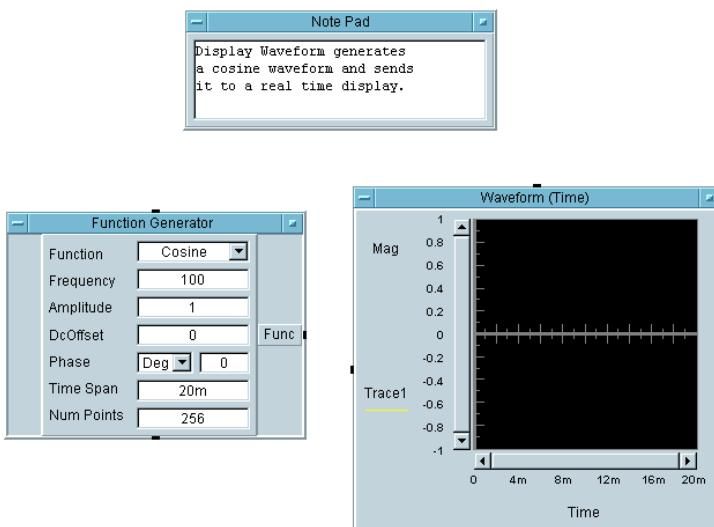

Figure 1-25. Creating a Program
3. Add the Waveform (Time) object. Select `Display` ⇒ `Waveform (Time)` and place the object to the right side of the work area as shown in Figure 1-25.
In Figure 1-25, the Func label on the Function Generator object denotes a **data output pin**, and the Trace1 label on the Waveform (Time) object denotes a **data input pin**. In VEE programs, you connect the data pins among the objects, and this determines the flow of the program.